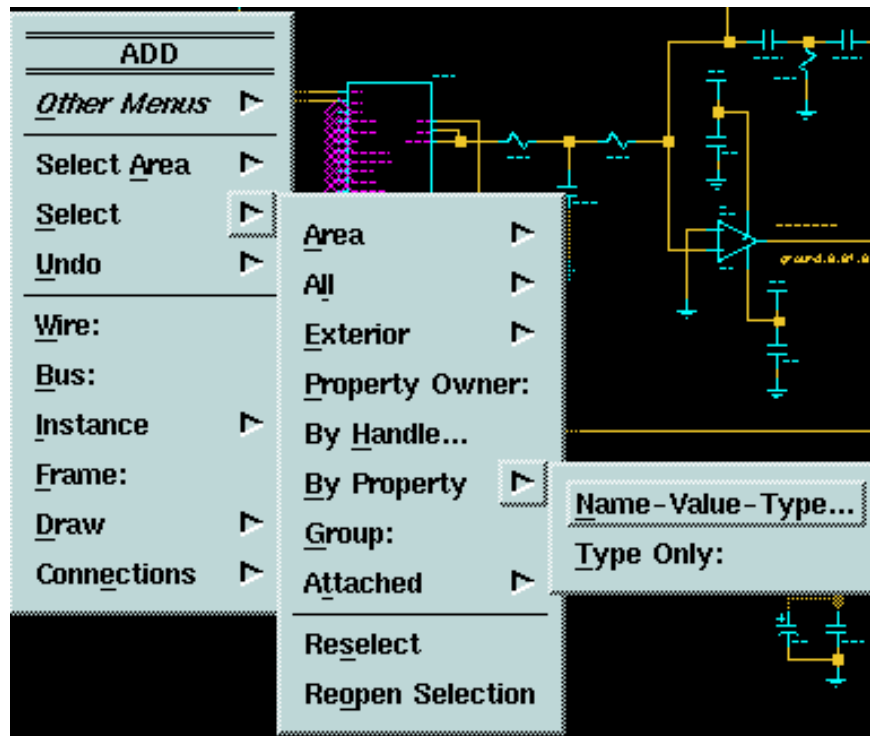

Figure 2-48. Select > By Property Menu
1. Press the Unselect All function key to be sure nothing on the sheet is selected. Choose the **[Add] Select > By Property > Name-Value-Type** popup menu item shown in Figure 2-48.